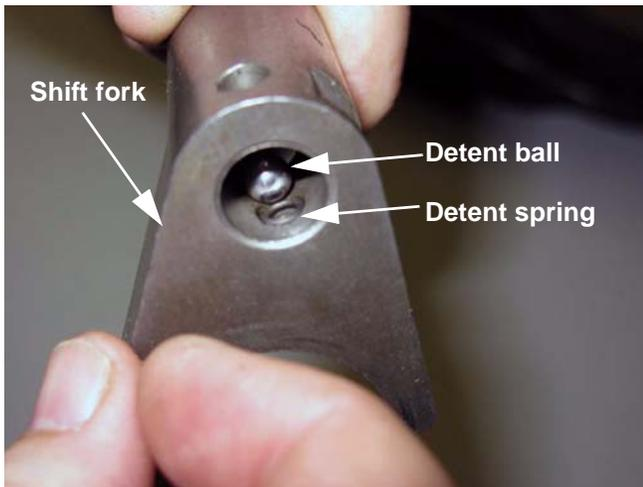

Figure 5.51
4. A spring-loaded ball in the shift fork stops the fork's travel at each of the grooves in the detent shaft. See Figure 5.51.